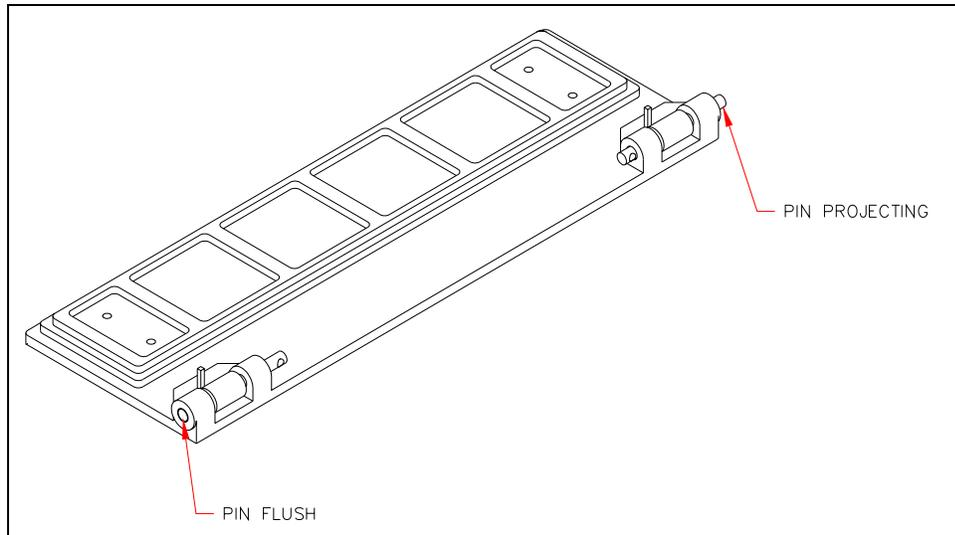

Figure 11-7 Removing Door Pins
- 2 Remove the springs and pins from the door by pushing the pins out of the door with a punch (Figure 11-7).